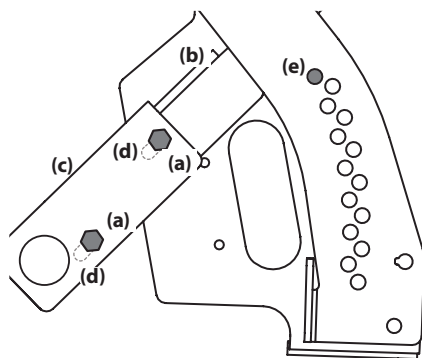

Figure 4-13
1. Loosen -- but do not remove -- the two hex screws (a) and flange lock nuts (a) that secure the handle (b) to right lift arm (c). See Figure 4-13. The handle has two slotted holes (d) to allow for the adjustment.